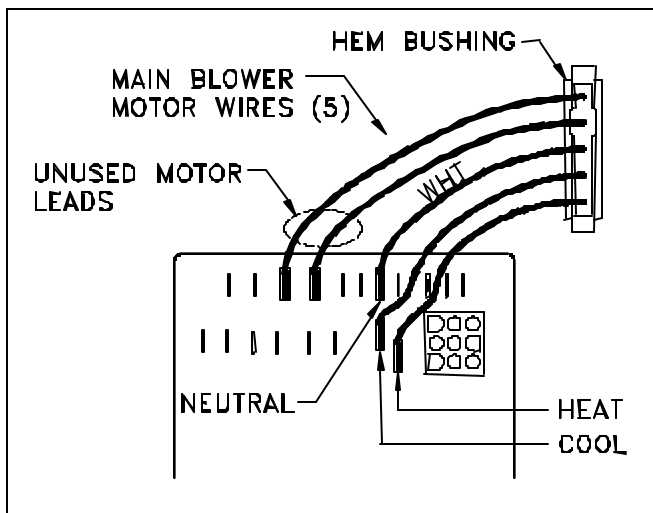

Figure 31. Main Blower Speed Selection.
3. To change cooling speed, move the desired motor lead to the terminal marked 'COOL' on the Fan Timer. See Figure 31. Initial factory setting for cooling is high speed (black wire).
4. To change the heating speed, move the desired motor lead to the terminal marked 'HEAT' on the Fan Timer. See Figure 31. Factory setting for heating is listed in Table 10. Heating speed should not be reduced below factory setting.
5. Connect the two unused motor leads to the terminals marked "UNUSED MOTOR LEADS" on the Fan Timer. See Figure 31.